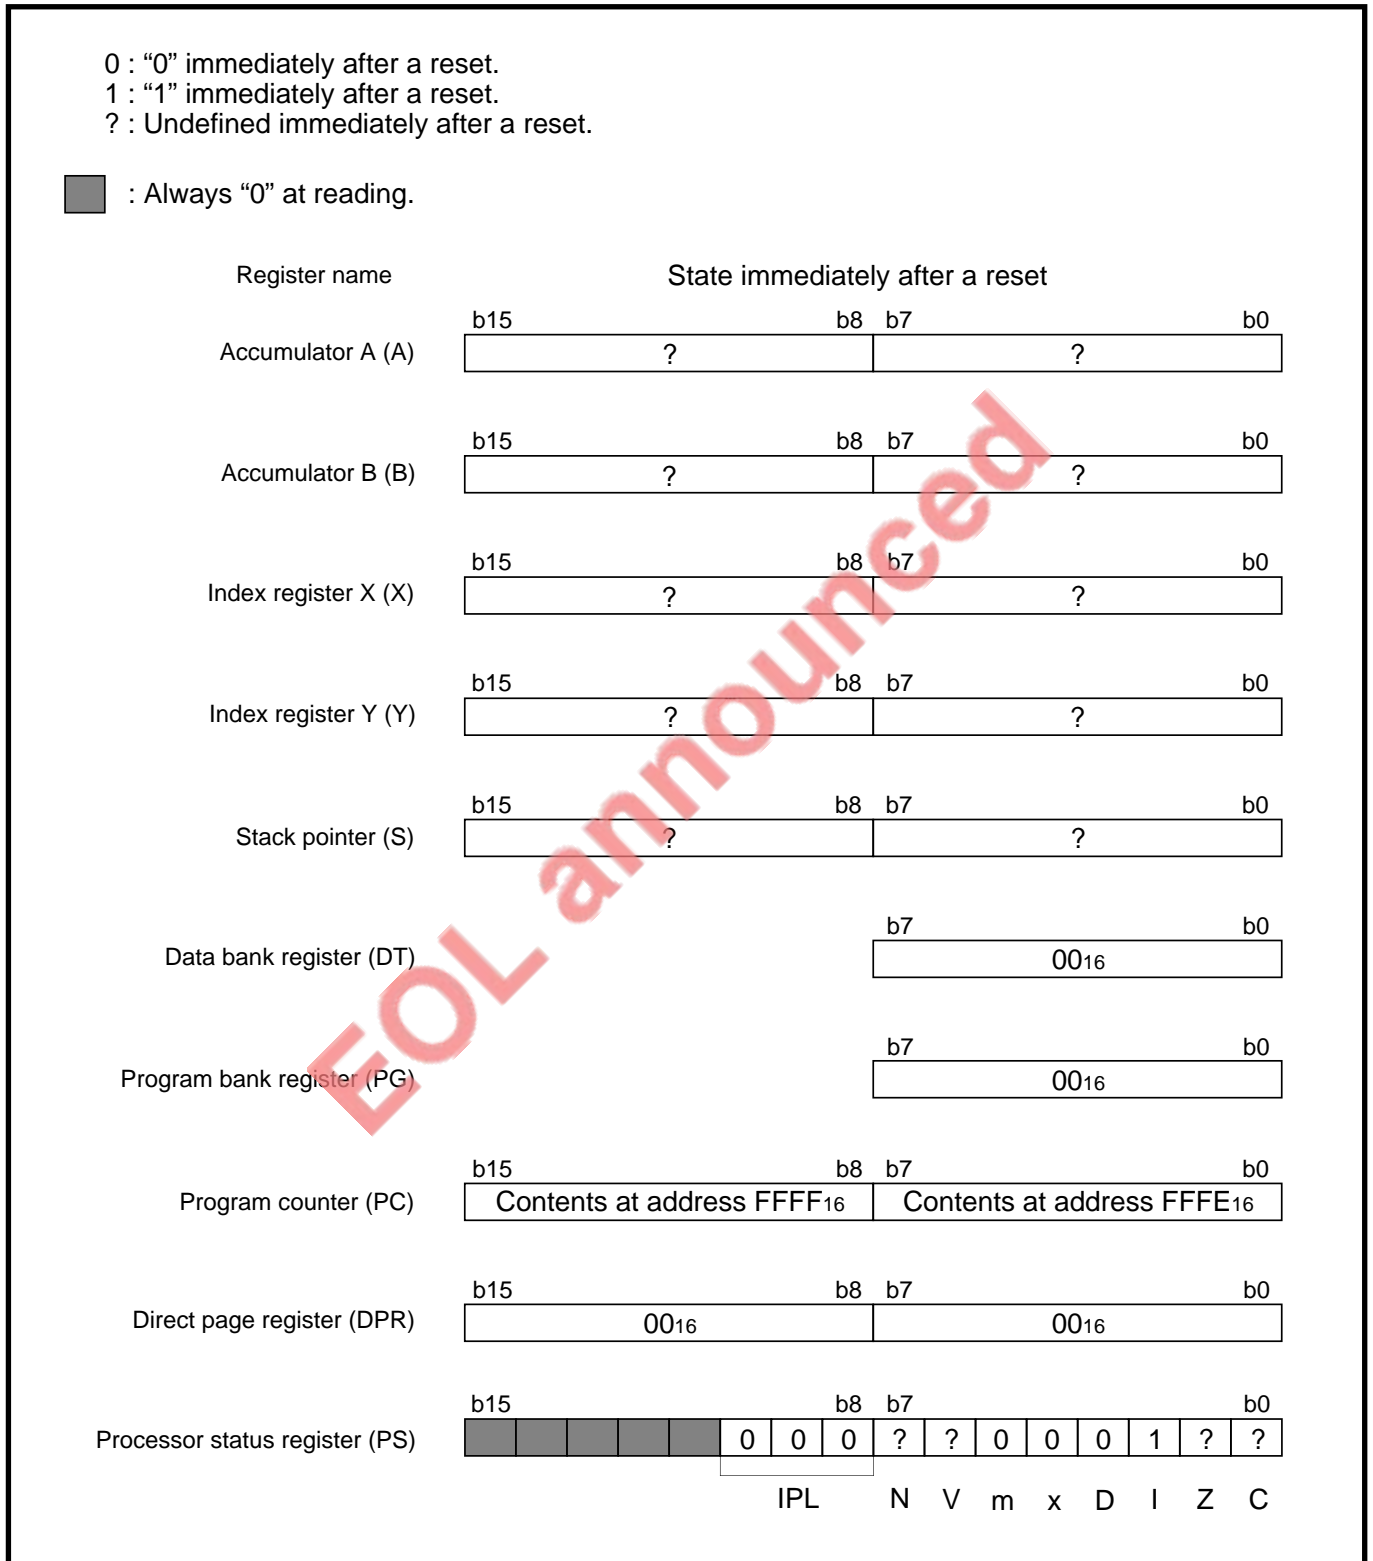

Fig. 13.1.2 State of CPU registers immediately after reset
- ① After supplying "L" level to the  $\overline{\text{RESET}}$  pin, the microcomputer initializes pins within a term of several tens. (Refer to Table 13.1.1.)
- ② While the  $\overline{\text{RESET}}$  pin is "L" level and within the term of 4 to 5 cycles of the internal clock  $\phi$  after the  $\overline{\text{RESET}}$  pin goes from "L" to "H," the microcomputer initializes the central processing unit (CPU) and SFR area. At this time, the contents of the internal RAM area become undefined (except when Stop or Wait mode is terminated). (Refer to Figures 13.1.2 to 13.1.6.)
Figure 13.1.2 shows the state of the CPU registers immediately after reset. Figures 13.1.3 to 13.1.6 show the state of the SFR area and internal RAM area immediately after reset.